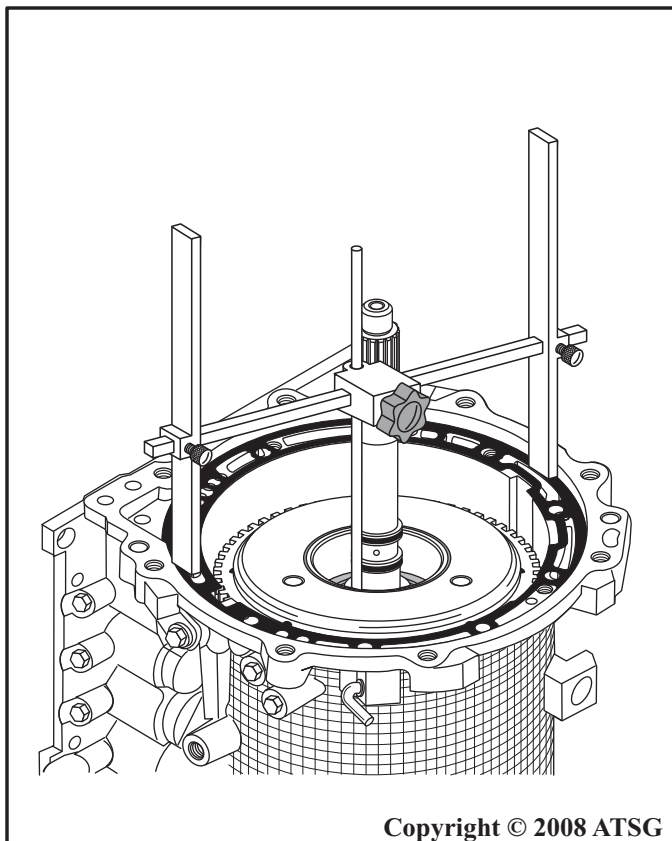

Figure 206
55. Install pump gasket, and then install "H" gage on transmission, as shown in Figure 206.